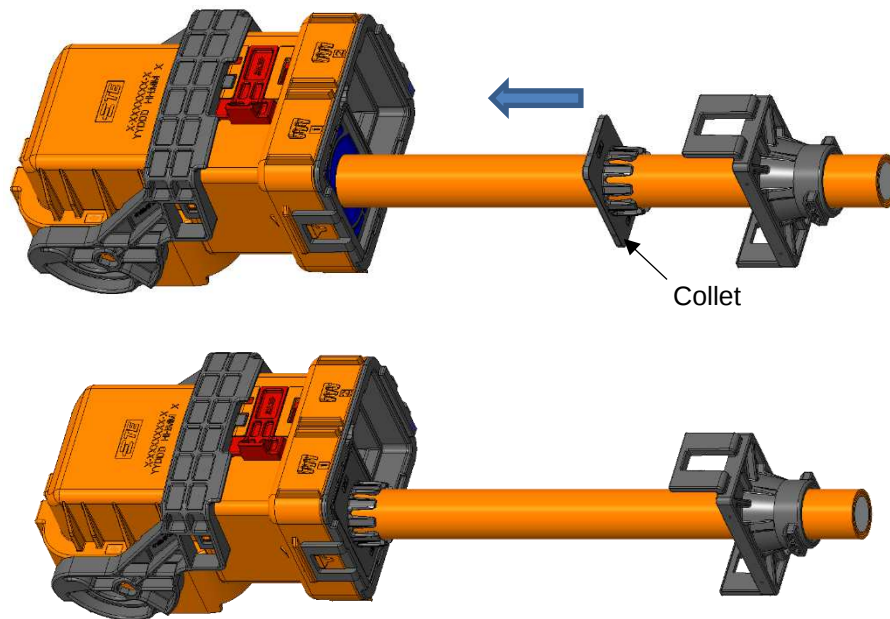

Figure 13: Collet Assembly
11. Slide the collet forward on the cable and into the spacer seal as shown in Figure 13.